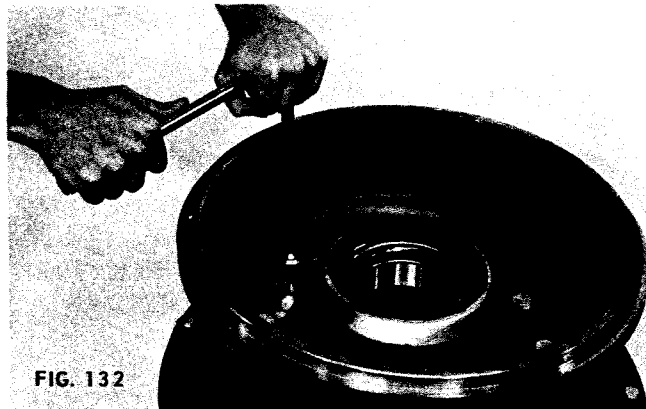

FIG. 132
3. Position oil catcher and brake drum on hub. Install bolts and flat washers (Fig. 132). Tighten per torque specifications. Lockwire bolts in pairs.